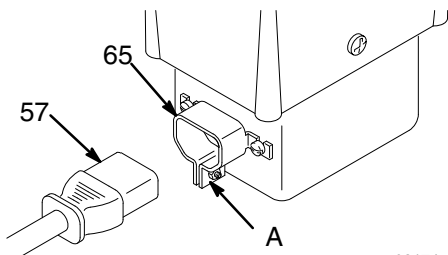

Fig. 2
1. Plug the power cord (57) into the inlet receptacle located below the motor. Tighten the screw (A) of the cord clamp (65) securely. See Fig. 2.